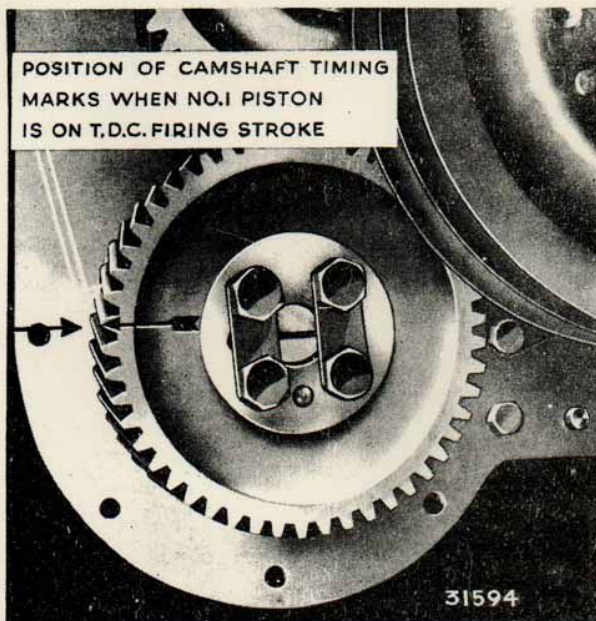

FIG. 65. CAMSHAFT TIMING MARKS.
2. Fit the camshaft gear so that when the dowel hole in the gear locates on the dowel in the camshaft end, the arrows on the gear face and timing back plate are in line (Fig.65 ), that is  $90^{\circ}$  to the outer face of the engine block.